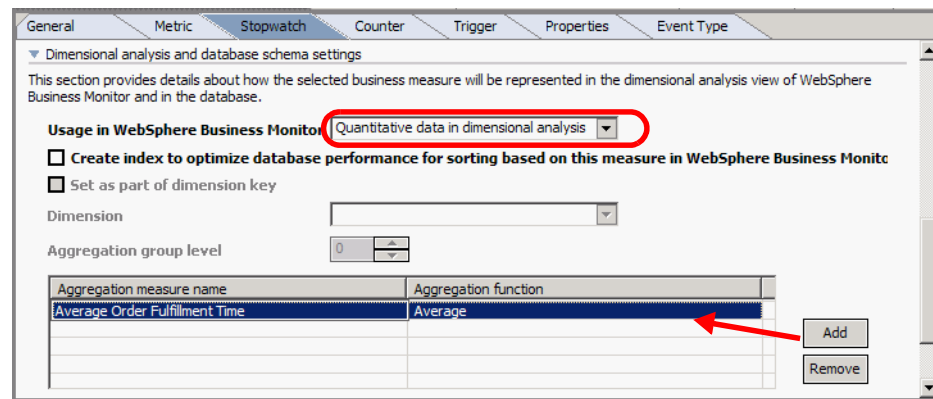

Figure 8-29 Preparing the stopwatch for dimensional analysis
- ▶ Click *Add* for a measure and set the name as *Average Order Fulfillment Time* (Figure 8-29).